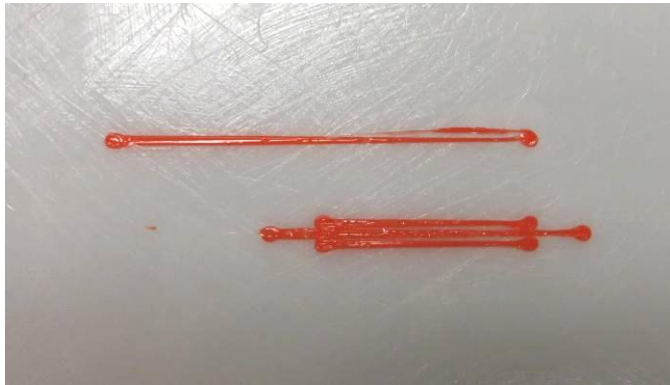

Figure 6. LEFT REAR corner with space between the test line and top and bottom lines.
- a. The image in Figure 6 below shows the LEFT REAR corner with space between the test line and top and bottom lines. Thus, rotate the LEFT-REAR adjustment screw $\frac{1}{2}$ turn to raise bed.